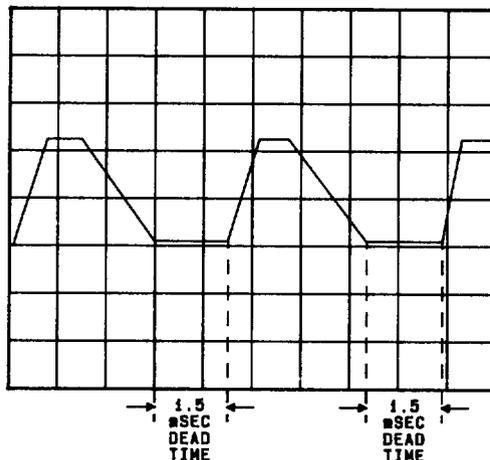

FIGURE 61. BALANCE ADJUSTMENT WAVEFORM
11. The oscilloscope display waveform should be similar to Figure 61.